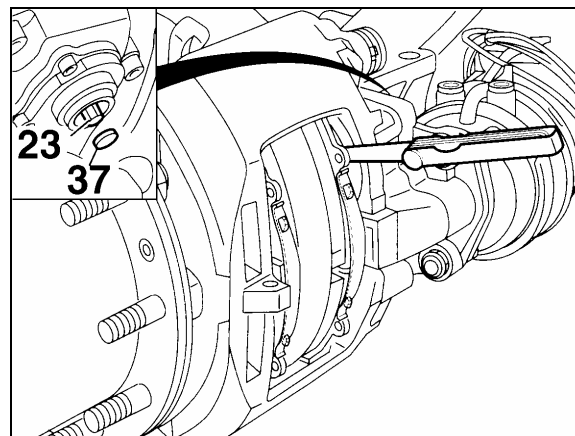

FIGURE 24: RUNNING CLEARANCE
- Remove cap (37, Fig. 24).
- Using a box wrench (8 mm), turn the adjuster pinion (23, Fig. 24) counterclockwise about 2 - 3 clicks to increase running clearance. By operating the braking system